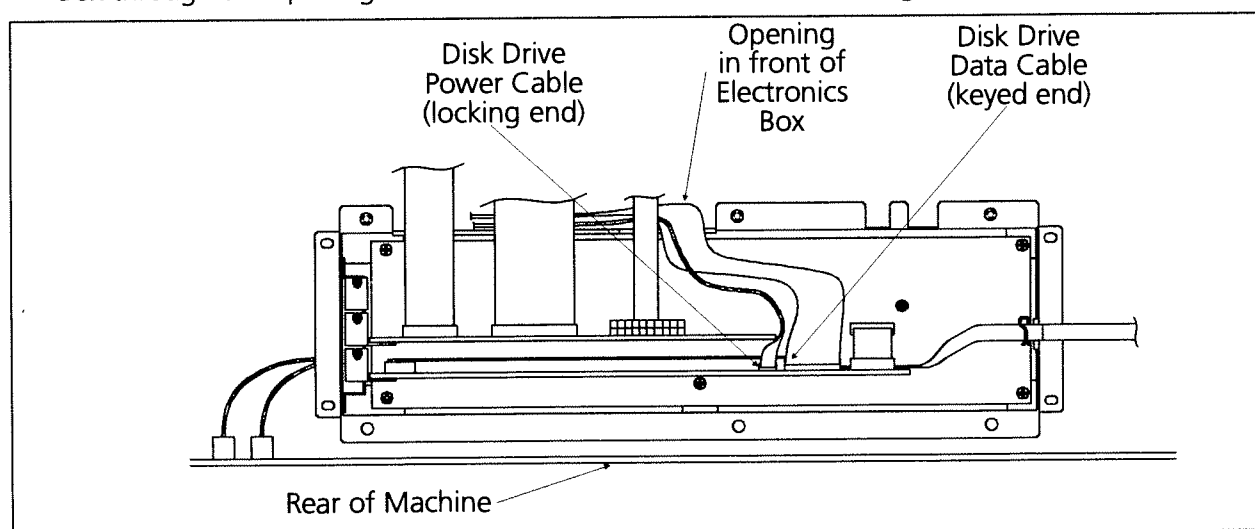

Figure A-6 Electronics Box w/Disk Drive Cables
5. Route the end of the Disk Drive Data cable containing the keyed connector into the Electronic Box through the opening in the front of the Electronics Box. (See Figure A-6)
6. Direct the cable to the top of the CPU and connect it to the proper connector as shown in Figure A-6.
8. Also, as shown in Figure A-6, install this cable to the proper connector at the top of the CPU.